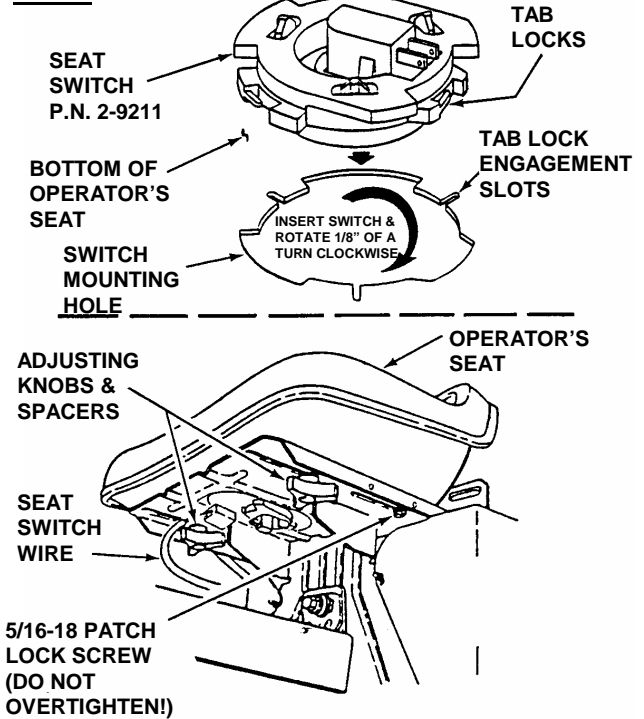

FIGURE 7
1. Install seat switch into bottom of seat by pushing in and turning clockwise until switch locks into place. See Inset in Figure 7.
3. Connect seat switch wiring harness to male tabs of seat switch (under seat). See Figure 7.
8. Adjust seat to desired position. Partially tighten rear screws, allowing seat to slide front to back. Tighten adjusting knobs to secure seat in position. See Figure 7.